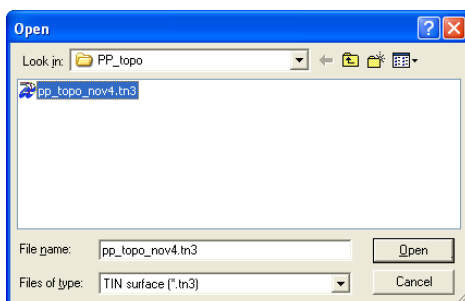

Figure 5-1. Open 3D TIN File
2. On the *Open* dialog box, navigate to the location of the desired file, select it, and click **Open** (Figure 5-1). The TIN surface from the selected file is added to the 3D Project file.